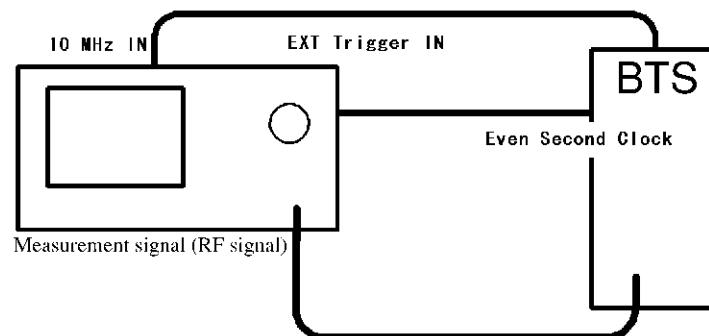

Figure 2-1 Setup for Base Station Code Domain Power Measurements
1. Connect the equipment as shown in Figure 2-1.